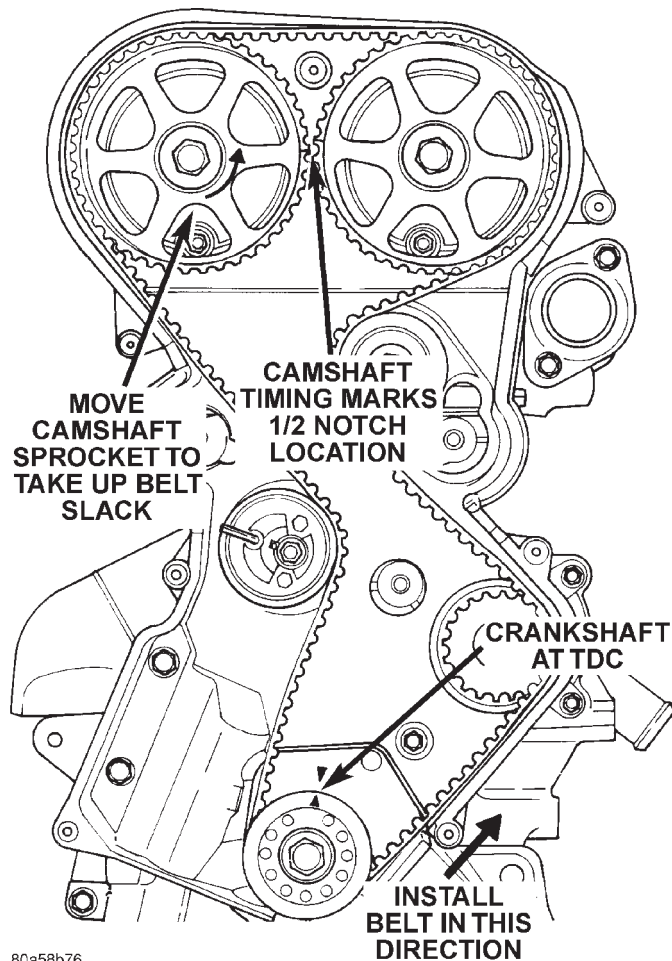

Fig. 58 Timing Belt—Installation
(3) Install timing belt. Starting at the crankshaft, go around the water pump sprocket, idler pulley, camshaft sprockets and then around the tensioner (Fig. 58).
(4) Move the exhaust camshaft sprocket counterclockwise (Fig. 58) to align marks and take up belt slack.